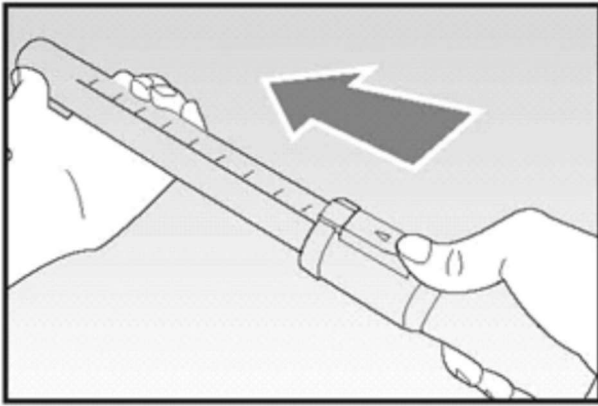

Fig. 4
(FIG. 4) to move it to the required length. Release the lever to stop the tube in the required position.
- Push the slider device (L) forwards and pull the bottom section of the tube out to the required length (Fig. 4). To shorten the tube, push it back in the opposite direction.